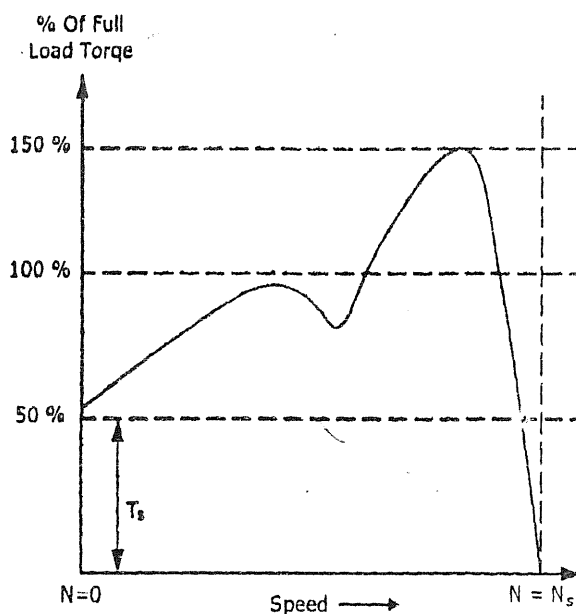

FIG. 4.20 : TORQUE – SPEED CHARACTERISTIC
- The torque-speed characteristic of the shaded pole single phase induction motor is shown in Fig. 4.20.